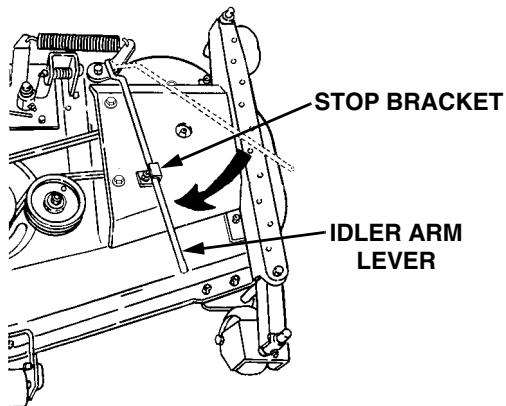

Figure 39
17. While holding the belt in position, rotate the deck idler arm lever into its stop bracket to tension the PTO belt (Refer to Figure 39). Make certain the PTO belt is properly positioned in the PTO clutch pulley and both lower front pulleys. Reposition if necessary.